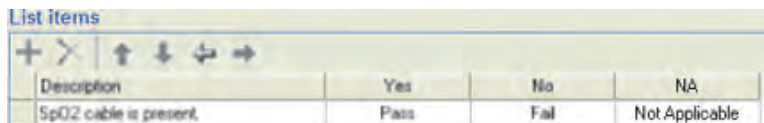

Figure 3-34. New Status for One Checklist Option
- Click on the menu item labeled Not Applicable to update the status. See Figure 3-34.